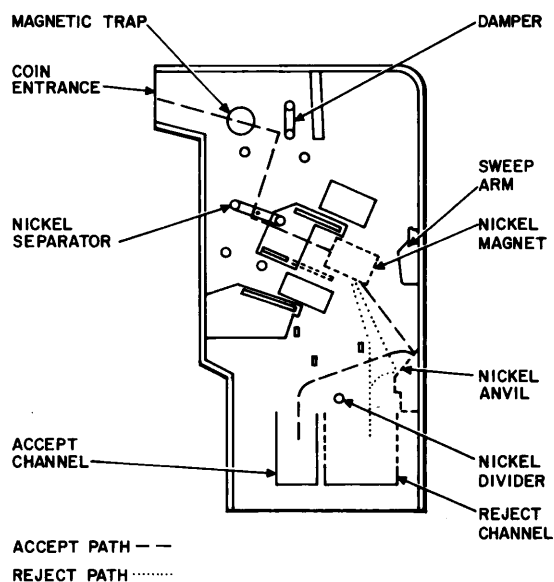

Fig. 2—Nickel Path in a Typical Coin Chute
2.01 Nickel Operation—Valid Coin Accepted (Fig. 2):
2.02 Nickel Operation—Coin Rejected (Fig. 2):